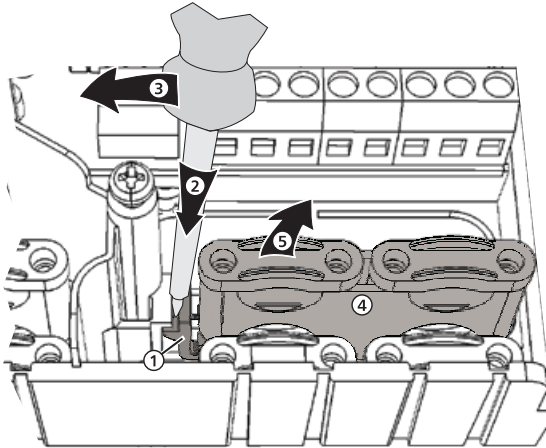

Fig. 5: Removing the right plastic link
1. Insert a screwdriver under the right plastic link between the casing and the spring clamp ①, ② (Fig. 5).
2. Carefully push the screwdriver to the left ③. Lever the spring clamp ① to the right until the plastic link ④ is free.
3. Pull out the plastic link upwards by hand ⑤.